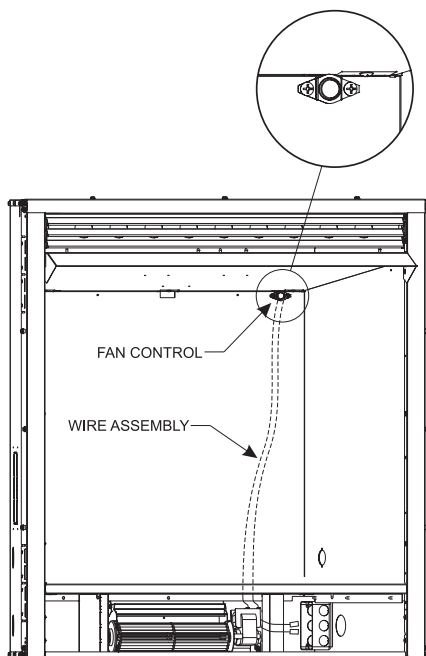

Figure 25
5. Next, find the fan control switch and wire assembly. Feed the wires through the hole at the top of the firebox, and secure the fan control switch with the two screws provided. **See Figure 25.**
6. The fan control wires will slide down between the firebox and outer wrap near the blower assembly. **See Figure 25.**